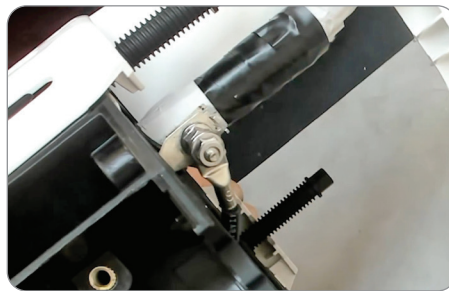

Figure 23
6. Attach bonding eyelet if applicable. (Figure 23)